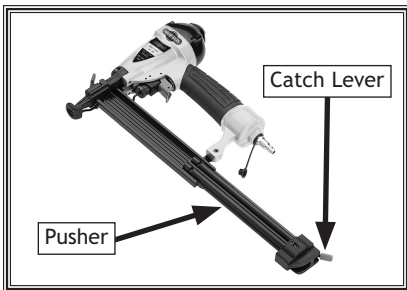

Figure 2. Sliding magazine pusher back and engaging catch lever.
2. Grip the nailer firmly, and pull the magazine pusher back until the catch lever engages, as shown in **Figure 2**.